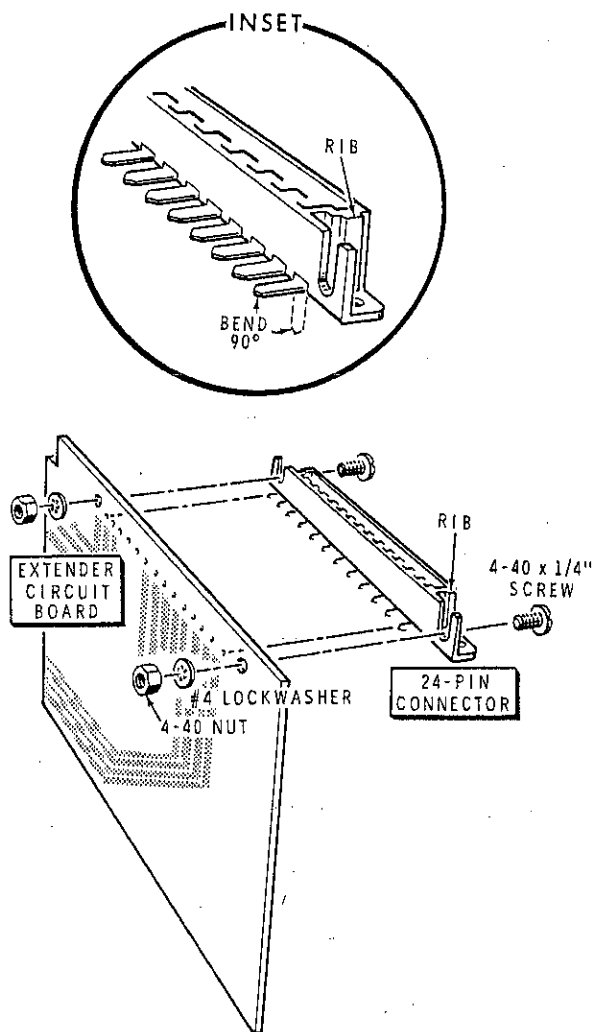

Figure 1-9
- () Refer to the inset drawing on Figure 1-9 and bend each pin on the circuit board connector as shown.
- () Mount the circuit board connector on the extender circuit board with 4-40 x 1/4" hardware as shown in Figure 1-9.